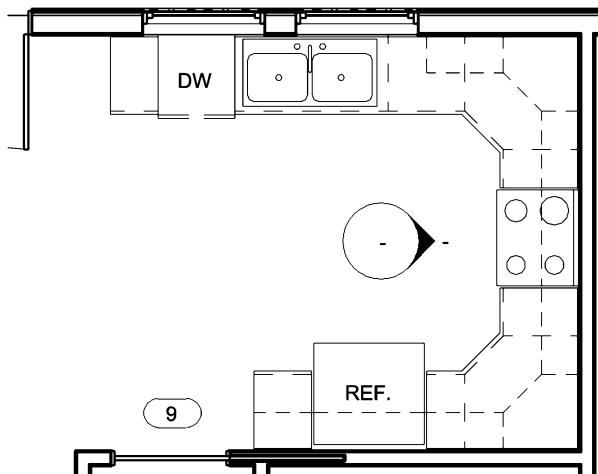

FIGURE 12-2.6 Elevation tag added to kitchen
10. Add an interior **Elevation Tag** as shown in Figure 12-2.6.